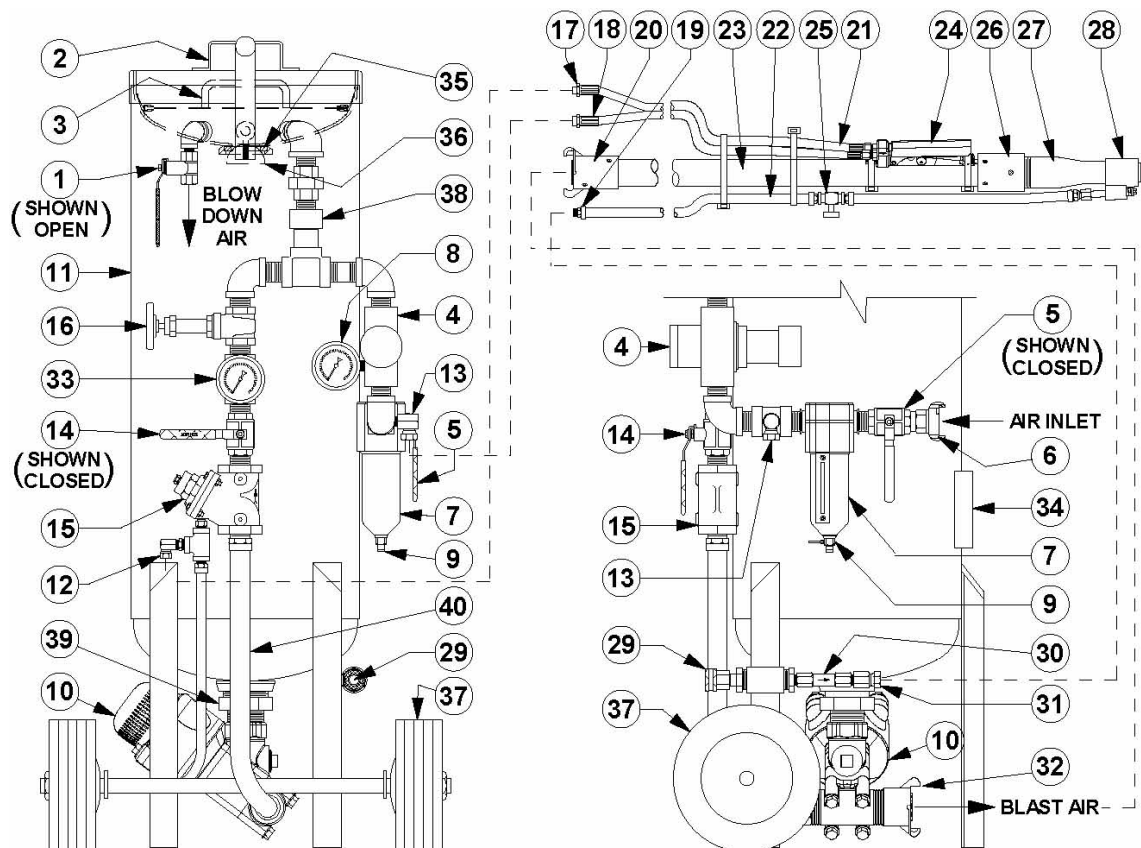

Figure 7.2 – Typical Mini Abrasive Blaster
7.2 Beginning the Blasting Operation (See Figure 7.2)
- 7.2.7. Close the blowdown ball valve (#1) near the handle of the vessel. See Figure 7.2.